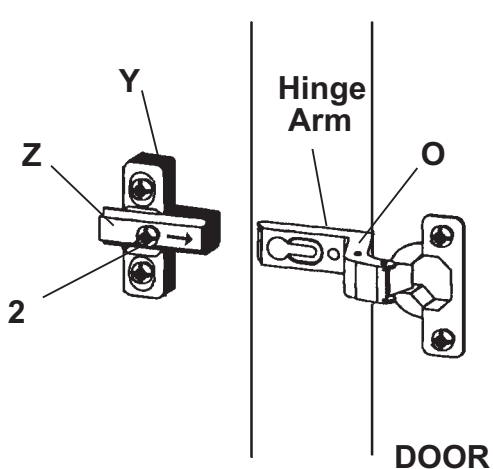
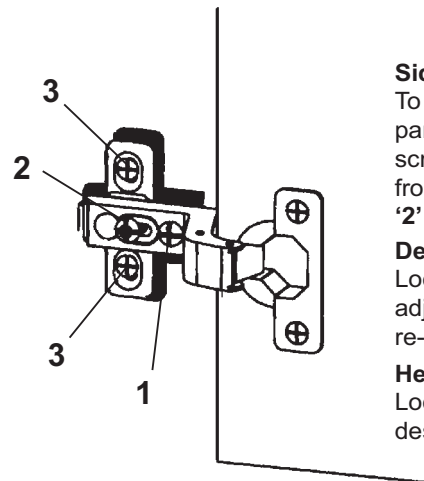

Fig. 14
Fig. 14a
14. To attach the doors to the unit, slide the Hinge arms onto the plates as shown in Figure 14. Follow directions in Figure 14a to adjust the doors.